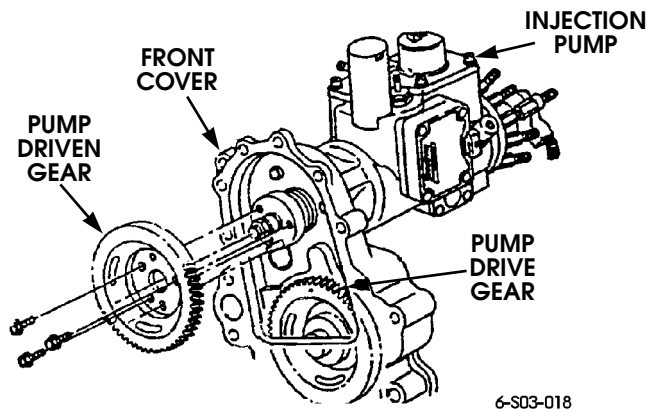

Figure 3-57: Fuel Injection Pump
13. Remove pump (Figure 3-57).